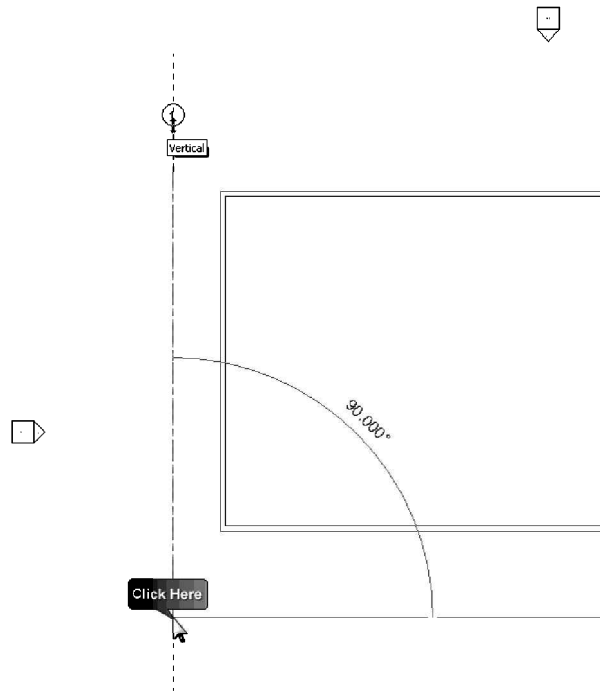

FIGURE 2-1.5 Drawing a grid
7. [first pick] **Click** down and to the left of your building as shown in Figure 2.1-5.
8. [second pick] Move the cursor straight up (i.e., vertically) making sure you see a dashed cyan line, which indicates you are snapped to the vertical plane, and the angle dimension reads 90 degrees. Just past the North edge of the building (as shown in Figure 2.1-5), click.